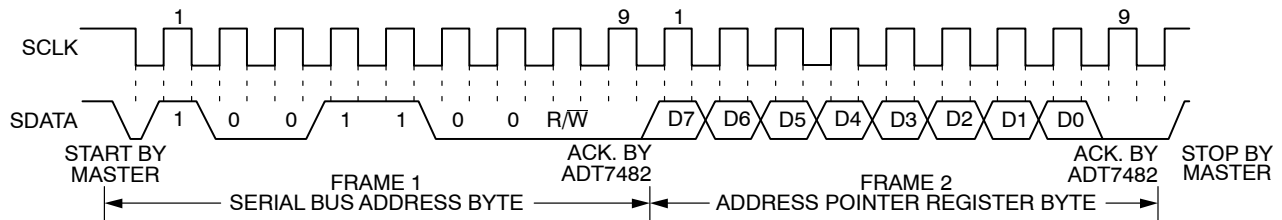
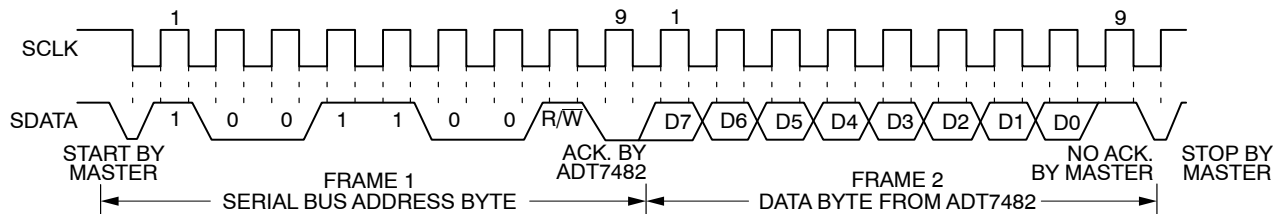

Figure 17. Writing to the Address Pointer Register Only
Figure 18. Reading Data from a Previously Selected Register
1. If the ADT7482 address pointer register value is unknown or not the desired value, it is first necessary to set it to the correct value before data can be read from the desired data register. This is done by performing a write to the ADT7482 as before, but only the data byte containing the register read address is sent, as data is not to be written to the register. This is shown in Figure 17. A read operation is then performed consisting of the serial bus address, R/ $\overline{W}$ bit set to 1, followed by the data byte read from the data register. This is shown in Figure 18.
2. If the address pointer register is known to be already at the desired address, data can be read from the corresponding data register without first writing to the address pointer register and the bus transaction shown in Figure 17 can be omitted.